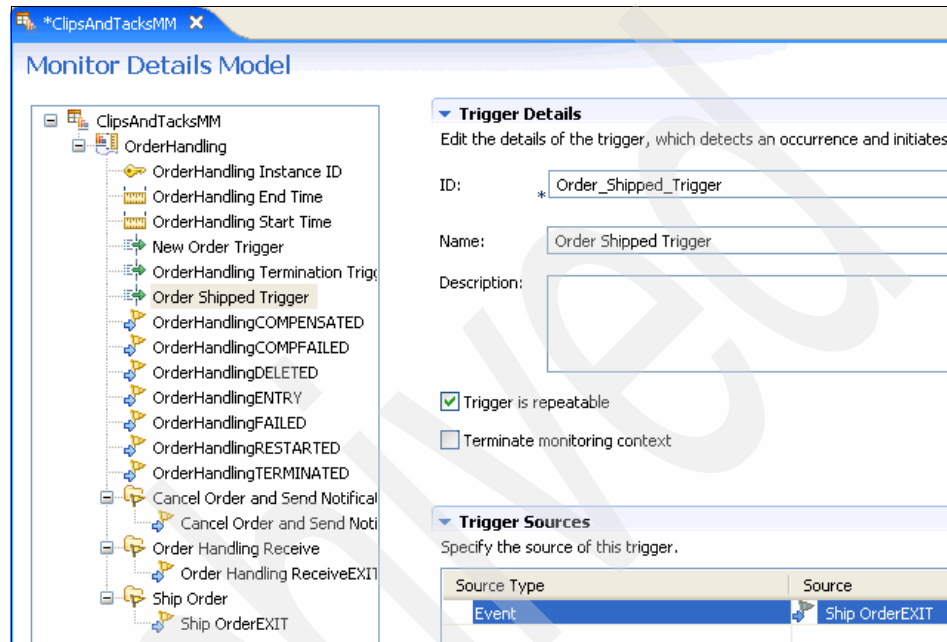

Figure 5-33 Order Shipped Trigger overview
3. In the Monitor Details Model panel (Figure 5-33), under Trigger Sources: